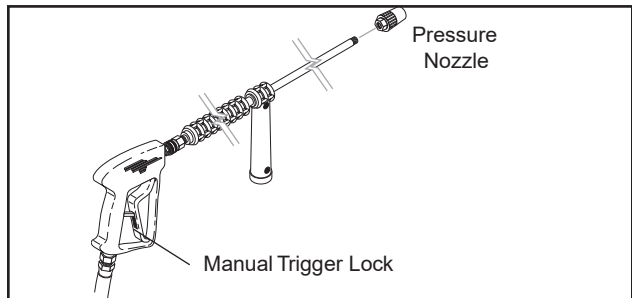

Figure 8 - Nozzle Installation-Manual Trigger Lock
7. Install the pressure nozzle on end of wand, (refer to Figure 8).
IMPORTANT: The trigger gun provided with this pressure washer is equipped with a manual trigger lock to prevent accidental operation of the trigger gun, (refer to Figure 8). The trigger lock should be used whenever the trigger gun is not in use.